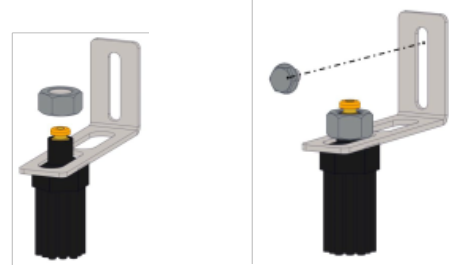

Figure 4
6. Install brushes on to the desired brackets using the 1/2-20 nuts (nuts should only be finger tight at this point as minor adjustment may be necessary). See figure 4
7. Place the brackets over the chain and on top of the sprocket. Using the bracket as a template, mark and drill one 7/32" holes. Secure the bracket with the self tapping screws. See figure 4